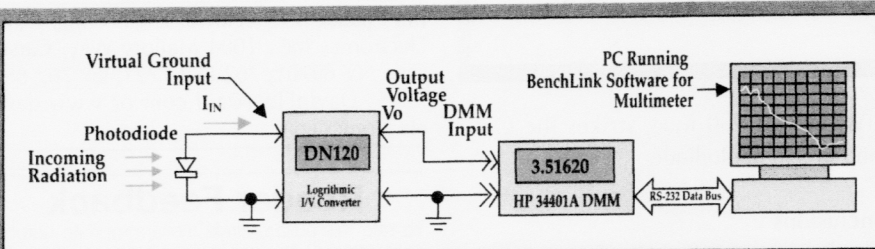

Figure 4. A data acquisition system was used to measure the logarithm of the photodiode current (light intensity) in the radiometer experiment.
A simple radiometer incorporating a 1.2 mm2 silicon photodiode from Centronic Inc. (Newbury Park, California) was constructed to demonstrate the converter's dynamic range (see Photo 1, page 51). The photodiode was connected to the input of the DN120 as shown in Figure 4 (page 53). Photodiode current  $I_{IN}$ , which is directly proportional to the incoming radiation, flows
**Figure 6.** This plot of the output voltage  $V_o$  of the DN120 logarithmic current-to-voltage converter was produced by the radiometer in Figures 4 and 5. The voltage is the logarithm of the photodiode current  $I_{ph}$ , which is directly proportional to the intensity of light striking the diode. Note that the photodiode current measured at night is millions of times less than that measured at the beginning of the experiment when clouds were present. The logarithmic amplifier makes it possible to measure and view photodiode current over this entire dynamic range.
Figure 6. This plot of the output voltage  $V_o$  of the DN120 logarithmic current-to-voltage converter was produced by the radiometer in Figures 4 and 5. The voltage is the logarithm of the photodiode current  $I_{IN}$ , which is directly proportional to the intensity of light striking the diode. Note that the photodiode current measured at night is millions of times less than that measured at the beginning of the experiment when clouds were present. The logarithmic amplifier makes it possible to measure and view photodiode current over this entire dynamic range.